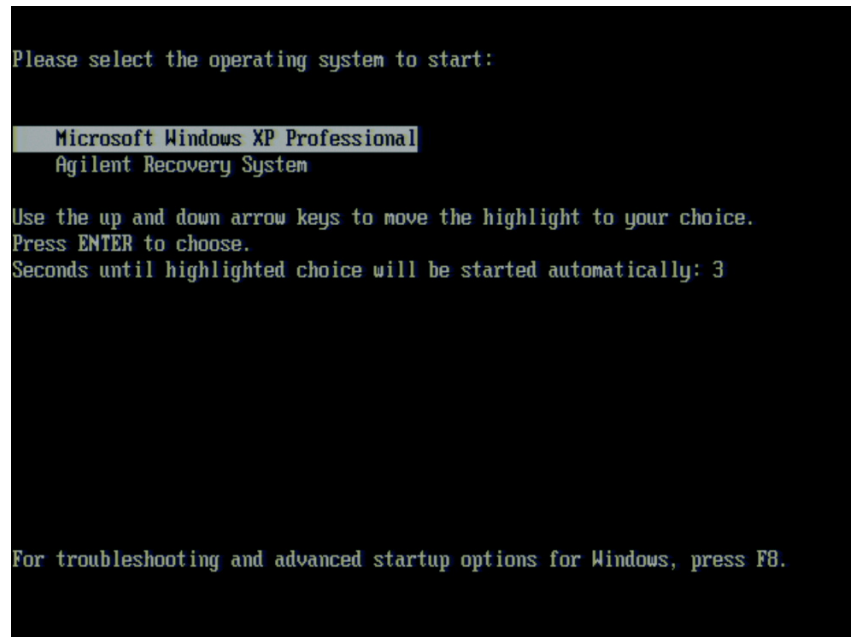

Figure 7 System start up screen in Windows Vista Business (2/2)
Step 3. The screen as shown in the Figure 7 appears. Press **[Enter]**.